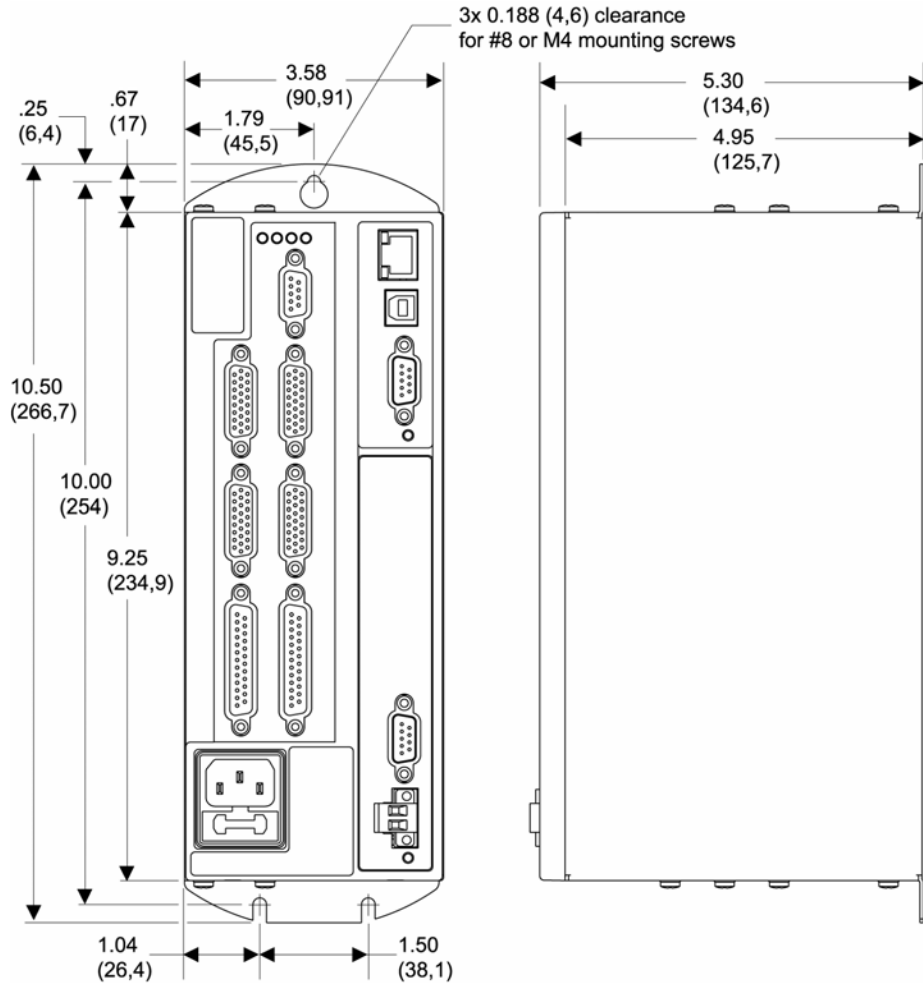
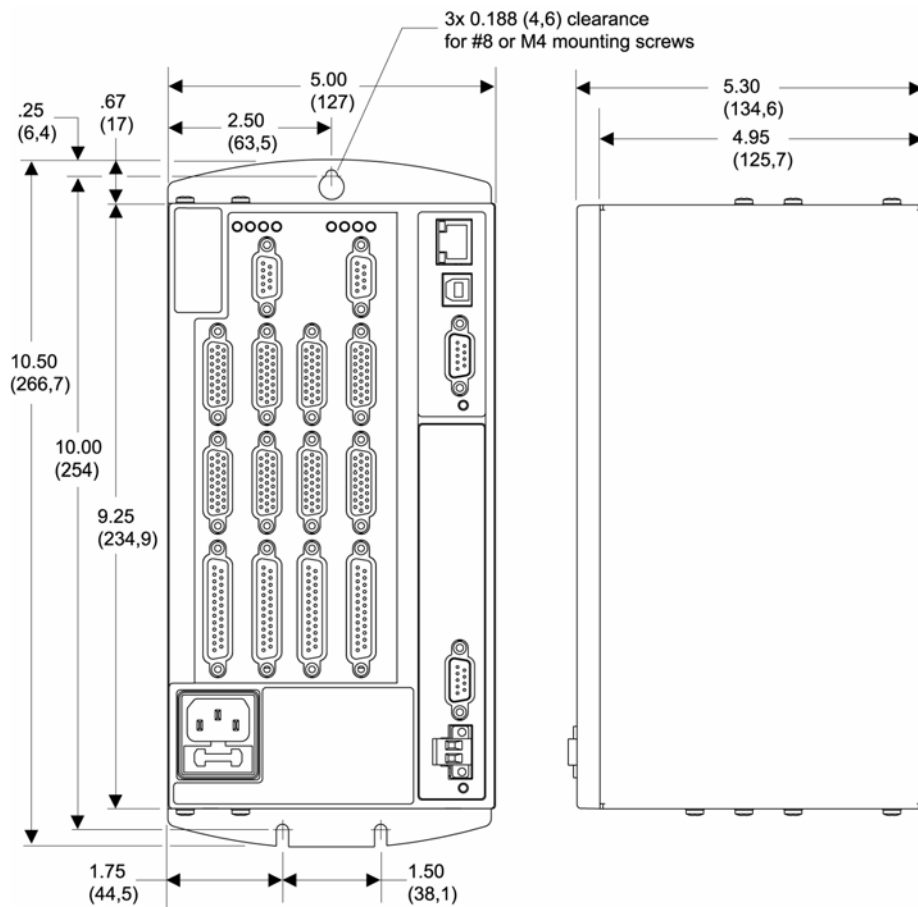
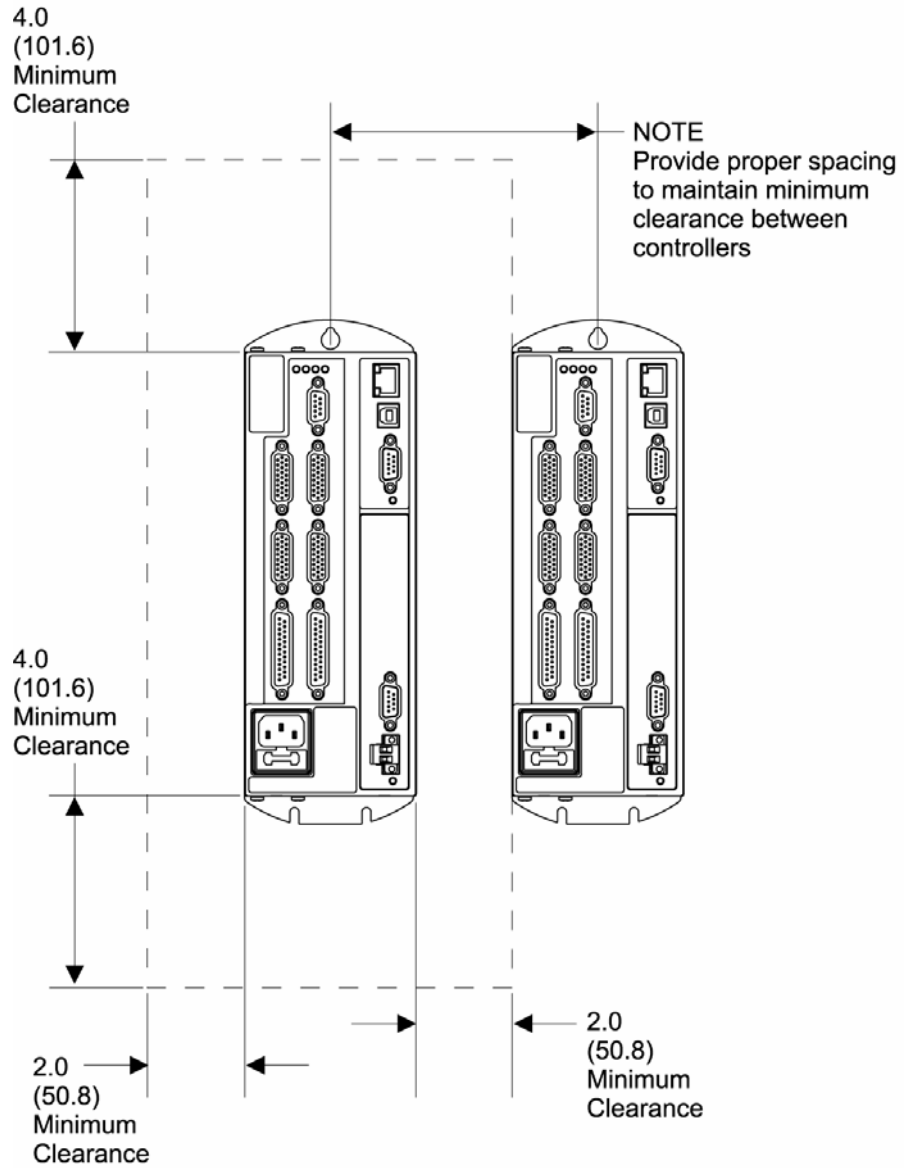
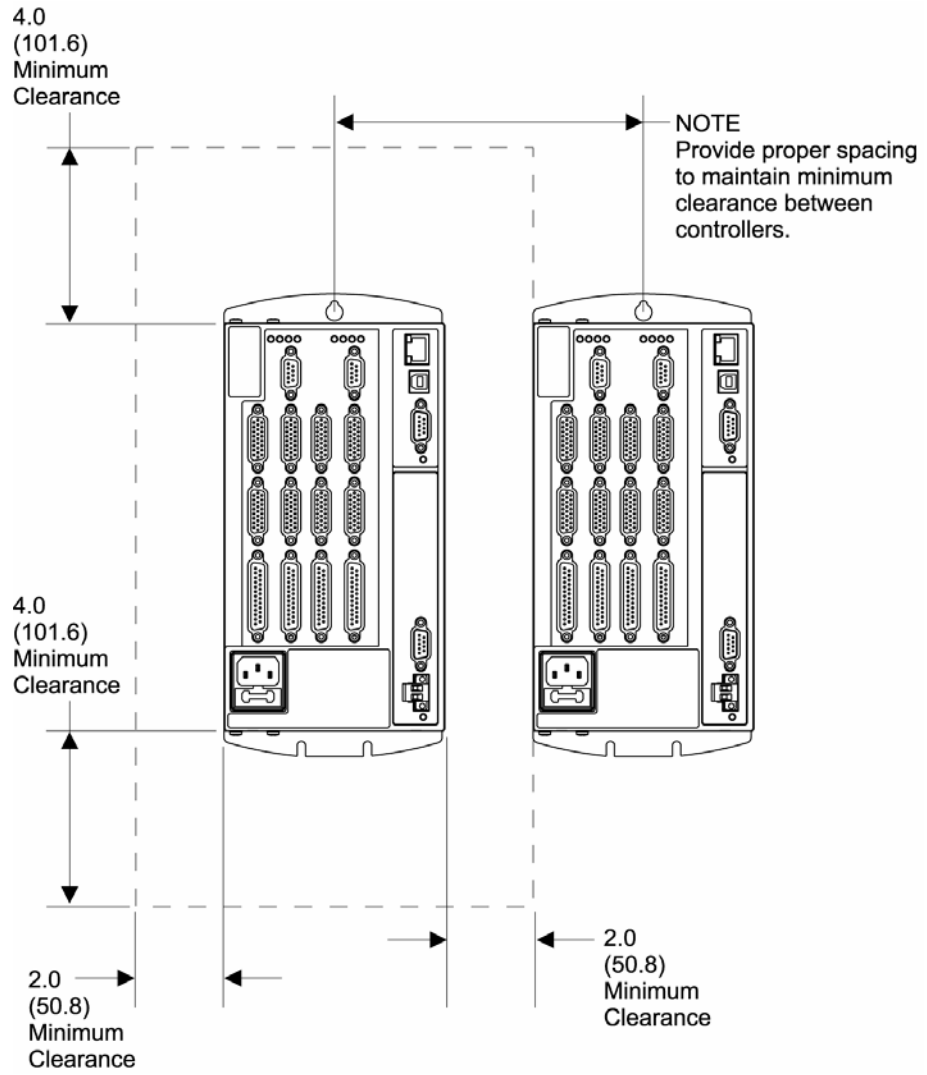

Figure 19 Mounting Specifications for 2/4 Axis Configuration
Figure 20 Mounting Specifications for 6/8 Axis Configuration
Figure 21 Mounting Clearance for 2/4 Axis Configuration
Figure 22 Mounting Clearance for 6/8 Axis Configuration
Mount the ACR9000 Stand-Alone Controller before making any electrical connections or applying power. The figures on the following pages illustrate mounting specifications for the 2/4 Axis Configuration and the 6/8 Axis Configuration of the controller. Figure 19 and Figure 20 on pages 46 and 47 provide the measurements. Figure 21 and Figure 22 on pages 48 and 49 show the clearance requirements. Use the following guidelines for mounting the controller.
- Mount it on an **unpainted metal surface** (preferably zinc-plated), using three No. 8 or M4 mounting screws. For mounting measurements, see Figure 19 on page 46 and Figure 20 on page 47.
- For proper cooling, mount the controller vertically and with required clearance. (See Table 3 on page 7 for cooling requirements. Figure 21 and Figure 22 on pages 48 and 49 illustrate mounting clearance requirements.)